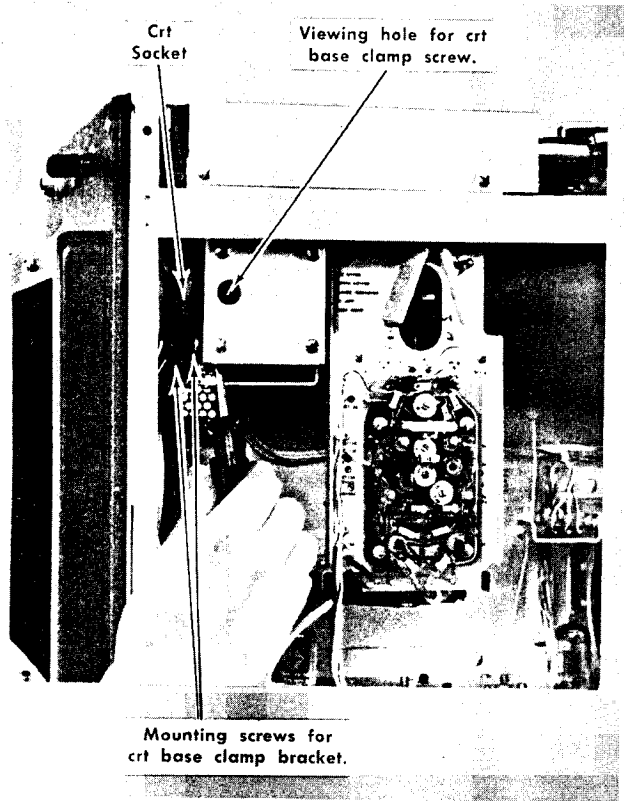

Fig. 4-4. Loosening the crt base clamp.
4. Using a phillips screwdriver, loosen crt base clamp (see Fig. 4-4) so that the crt base is loose in the base clamp.
If the crt face is not aligned with the front of the oscilloscope, use a $\frac{7}{64}$ " hexagonal wrench to loosen the two sockethead mounting screws that fasten the base clamp to the mounting bracket (see Fig. 4-4). Move the base clamp and crt radially to align the face of the crt with the front panel of the instrument.